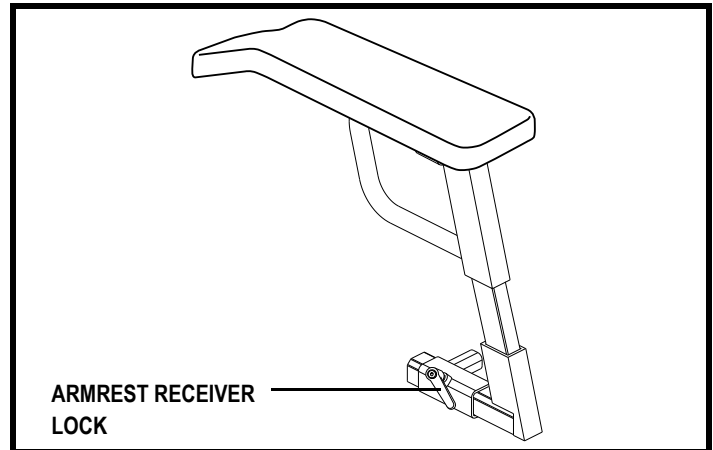

Figure 15. Armrest Position Adjustment
1. Turn the armrest receiver lock anticlockwise to loosen. **See figure 15.**